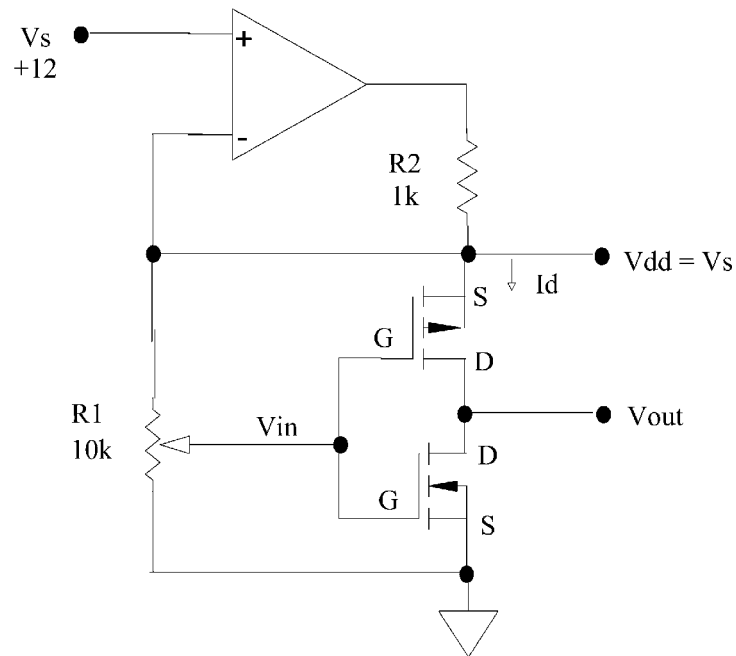

Figure 3
- e. Construct the circuit shown in Figure 3.
1. Construct the circuit shown in Figure 3 at the end of this procedure.
3. As you tested the circuit in Figure 3 you found the voltage out of the op-amp would drop and then return to its original value when  $V_{in}$  was at its minimum and maximum values. Why?
**Schematic Figure 3:**